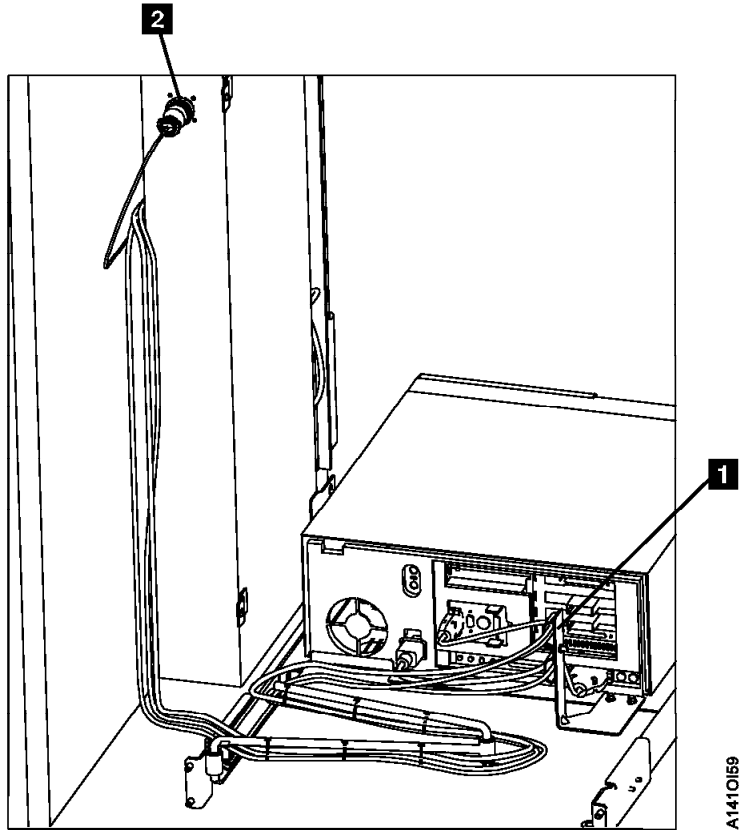
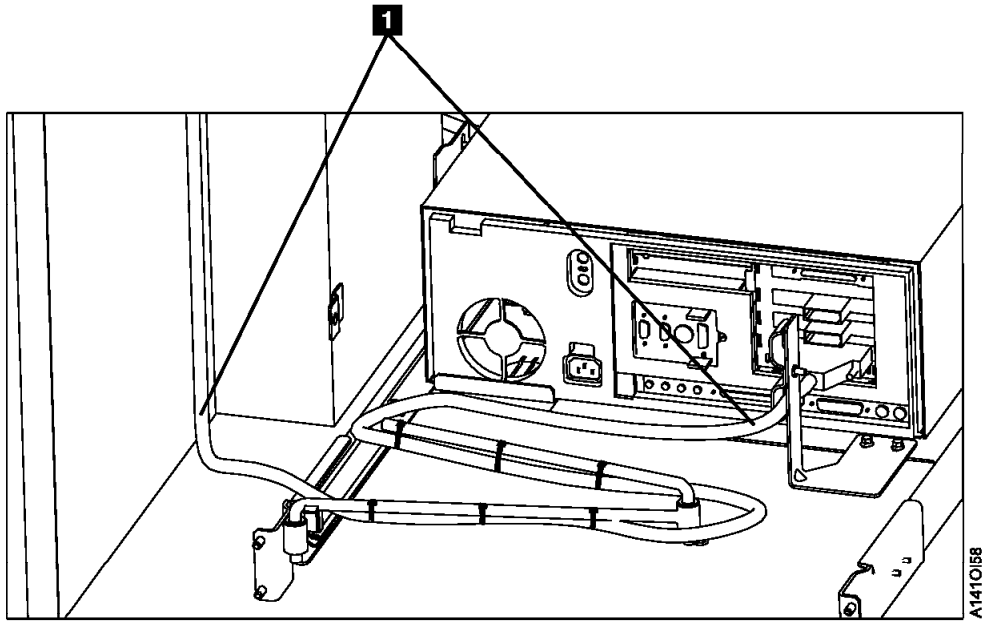

Figure 6-21. A50 Rear view with Cable Connections
Figure 6-23. A50 Cable Locations
- \_\_\_ 10. Attach SCSI 0 cable to the back of the A50 in adapter slot 1. Refer to Figure 6-23 on page 6-41, Table 6-12 on page 6-42 and Table 6-13 on page 6-42.
- \_\_\_ 11. Attach ESCON 0 cable to the back of the A50 in adapter slot 2. Refer to Figure 6-23 on page 6-41, Table 6-12 on page 6-42 and Table 6-13 on page 6-42.
- \_\_\_ 12. Attach SCSI 1 cable to the back of the A50 in adapter slot 4. Refer to Figure 6-23 on page 6-41, Table 6-12 on page 6-42 and Table 6-13 on page 6-42.
Refer to Figure 6-21 on page 6-39, Table 6-12 on page 6-42 and Table 6-13 on page 6-42
- \_\_\_ 14. Attach service terminal cable to the back of the A50 in **9** position 0. Refer to Figure 6-21 on page 6-39.
- \_\_\_ 15. Attach Op Panel cable to the back of the A50 in **3**. Refer to Figure 6-21 on page 6-39.
- \_\_ 16. Route the service terminal cable to the side of the A14 and up the frame. Refer to Figure 6-21.
- \_\_ 17. Route the Op Panel cable to the side of the A14, up the frame and over to the Operator Panel. Refer to Figure 6-21.
- \_\_ 19. Clamp cable in cable clamp provided on the tray. Refer to Figure 6-23 on page 6-41.
- \_\_ 20. Install articulating arm. Refer to Figure 6-23 on page 6-41.
- \_\_\_ 22. Dress the cables up the side of the frame to the operator panel and the bulkhead. Use cable clamps as needed to dress the cables to the articulating arm. Refer to Figure 6-23 on page 6-41 and Figure 6-21 on page 6-39.